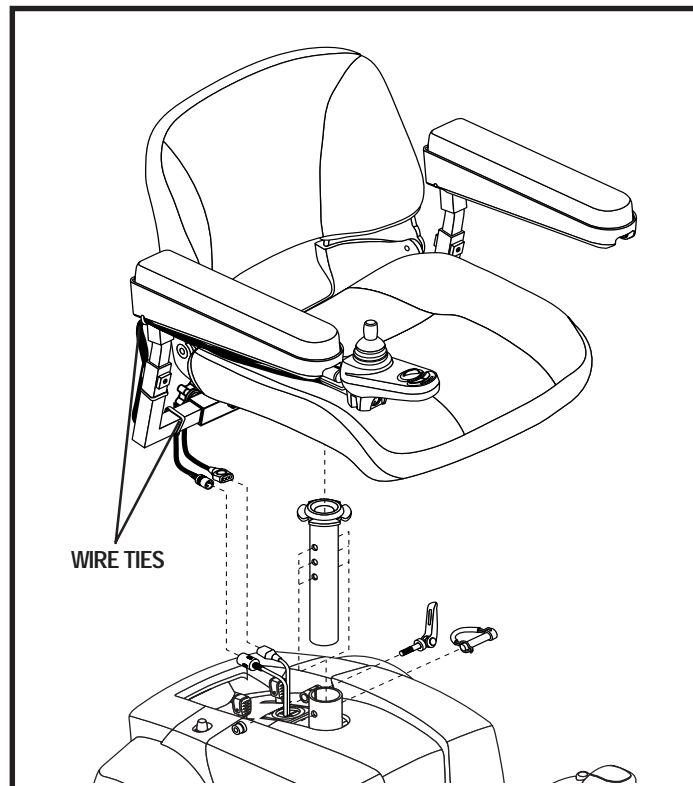

Figure 9. Seat Installation
2. Set the seat onto the seat pedestal. See figure 9.
4. Lift the armrest straight up, then route the controller cable and secure with wire ties as shown in figure 9.